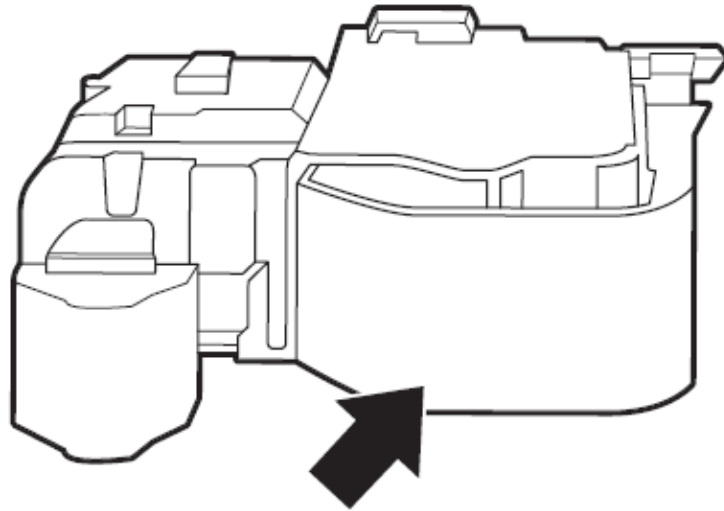

Figure 2
2. Locate the locking mechanism (Figure 2) on the right-hand side of the washer interior about half-way down.
ACU CONNECTORS & PINOUTS - FIGURE 2